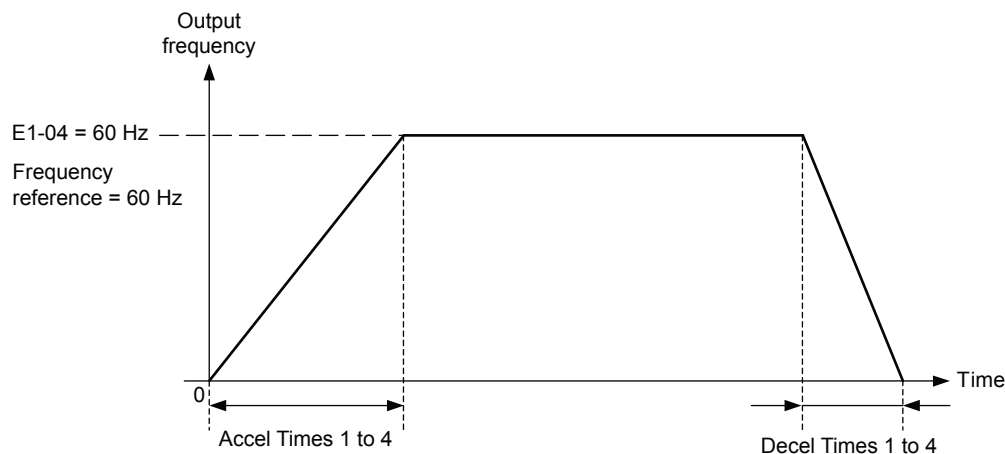
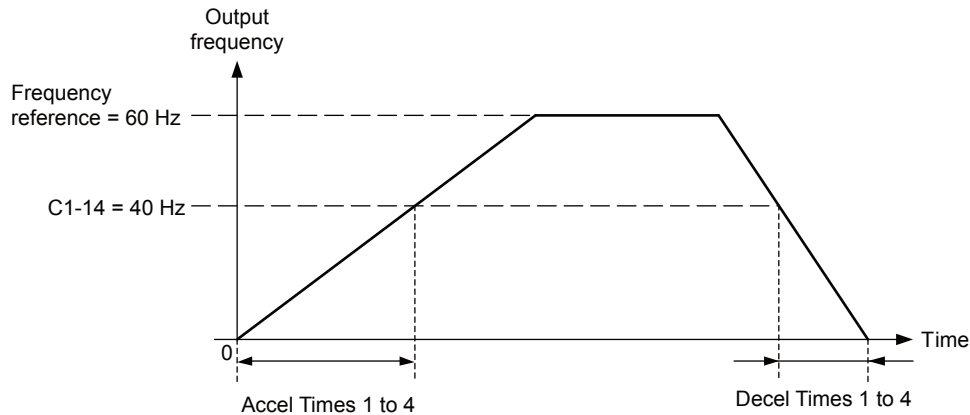
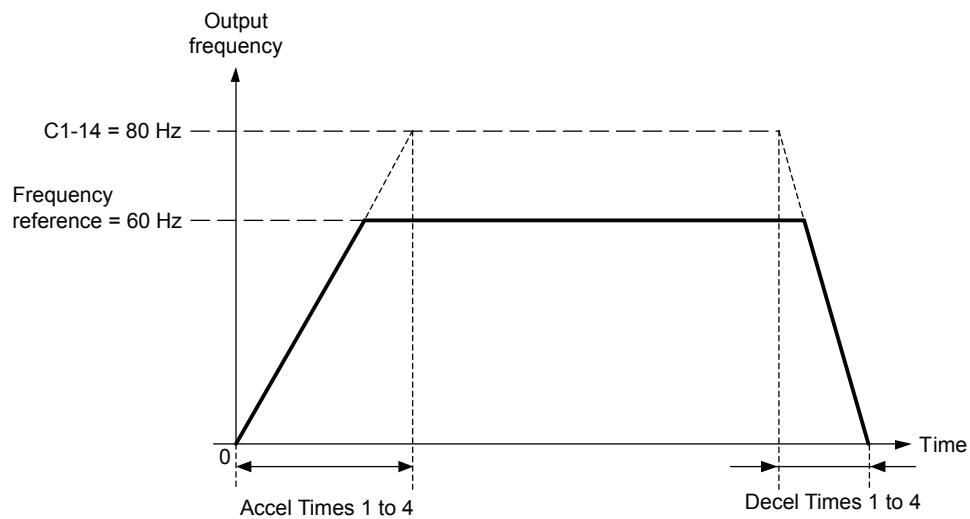

Figure 5.24 Accel/Decel Rate, Example 1 (C1-14 = 0 Hz, E1-04 = 60 Hz, Frequency Reference = 60 Hz)
Figure 5.25 Accel/Decel Rate, Example 2 (C1-14 = 40 Hz, E1-04 = 60 Hz, Frequency Reference = 60 Hz)
Figure 5.26 Accel/Decel Rate, Example 3 (C1-14 = 80 Hz, E1-04 = 60 Hz, Frequency Reference = 60 Hz)
Operation example is shown in Figure 5.24.
Operation examples are shown in Figure 5.25 and Figure 5.26.
1. The accel/decel times shown in Figure 5.24 to Figure 5.26 assume S-curve characteristic time during accel/decel at start and accel/decel at stop of 0.00 s (parameters C2-01 to C2-04).